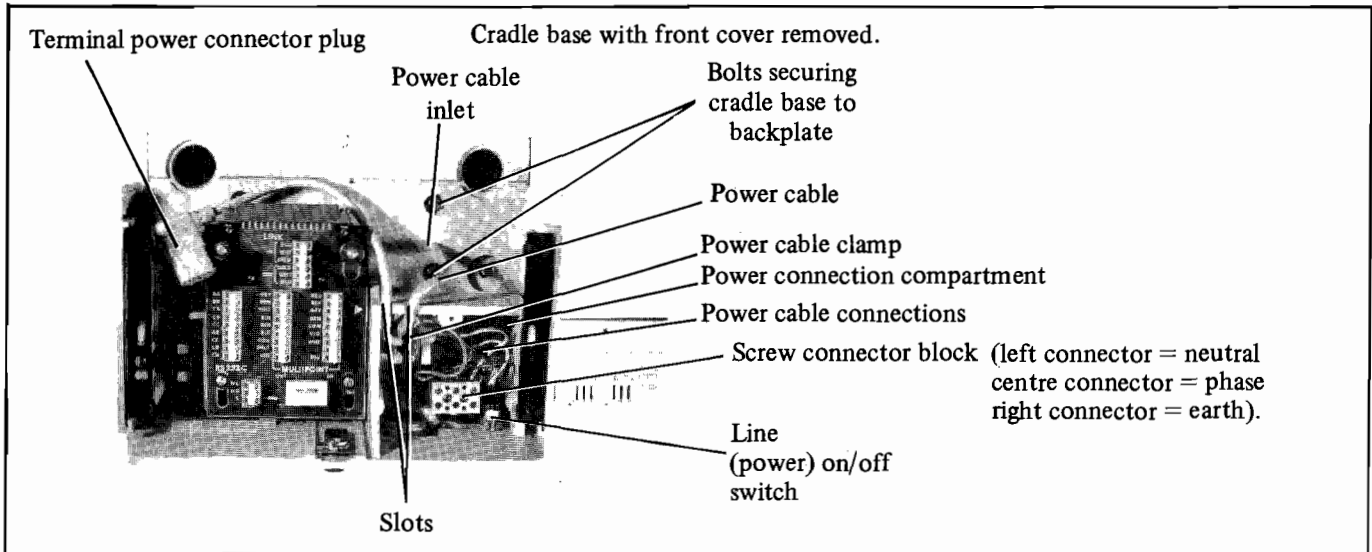

Figure 15-4 Power Supply Connection Through The Cradle Backplate
- 2) Unscrew and remove the power connection compartment plastic cover to gain access to the mains power screw connector block (see figure 15-4).
- 5) Within the power connection compartment, unscrew and remove the power cable clamp (see figure 15-4).